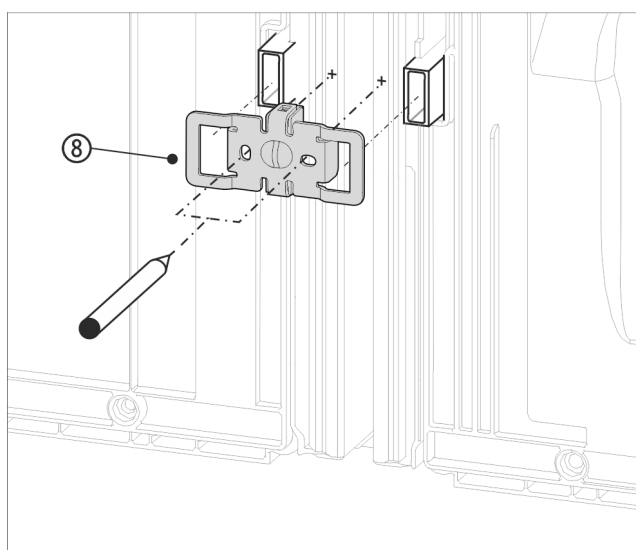

Fig. 16 Example illustration
- ▶ Slide the bracket Fig. 16 (8) with the slots over the retainer for the wall spacers.